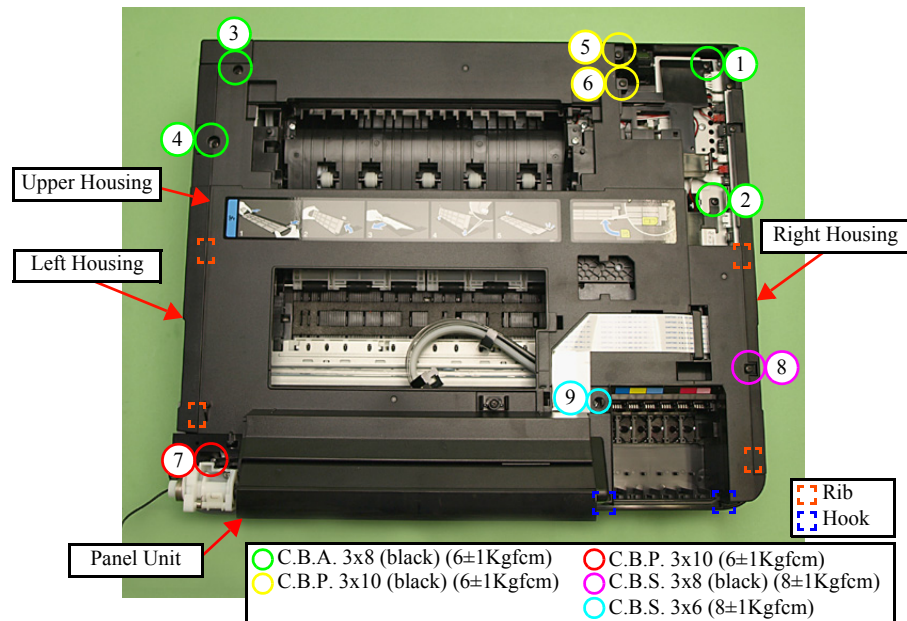

Figure 4-18. Removing the Upper Housing (2)
3. Remove the screws (x9) that secure the Upper Housing. (See Fig. 4-18.)
- Insert the ribs (x4) of the Upper Housing to the inside of the Housing L/R when installing the Upper Housing. (See Fig. 4-18.)
- Tighten the screws in the order shown in Fig. 4-18.